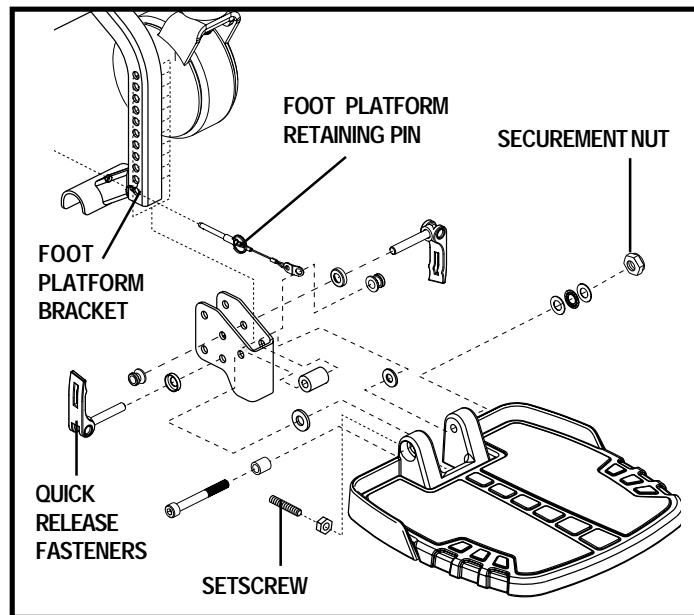
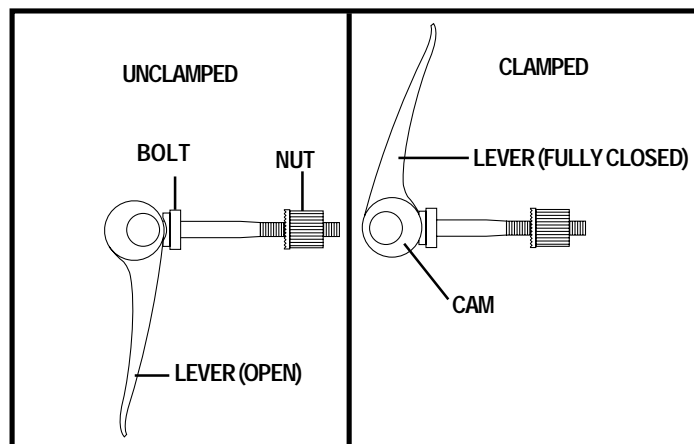

Figure 21. Foot Platform Adjustment
Figure 22. Quick Release Fastener Operation
1. Remove the quick release fasteners from the foot platform bracket. See figure 21.
**Quick Release Fasteners:** The foot platform is attached to the power base with two quick release fasteners. See figure 21. Each quick release fastener consists of a bolt, a lever, and a nut. See figure 22. The lever has a cam on the end that allows it to clamp into place. The quick release fastener has two states: clamped and unclamped. When the lever is open, the quick release fastener is unclamped. When the lever is closed, the quick release fastener is clamped.